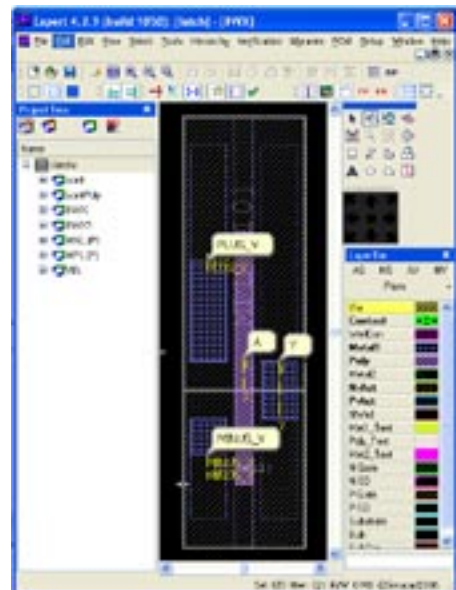

Figure 3. Viewing of circuit element with 'Open' command from Netlist Rover.
6. Select cell "INVX" in the circuit hierarchical tree, and click right mouse button. Select 'Open' in pop-up menu to open existing view "INVX" and inspect its pins. Switch from 'Flat View' into 'Lazy View' via 'View→Cell View→Lazy' or from Hierarchy toolbar to see ports in instances MPL (MI0) and MNL (MI1). See Figure 3.
7. Select cell “top” in the netlist hierarchy tree. As there is no cell “top” in the project as shown in Figure 3, the user has to right mouse click to activate the pop-up menu with ‘Open’, ‘Create’ and ‘Map’.